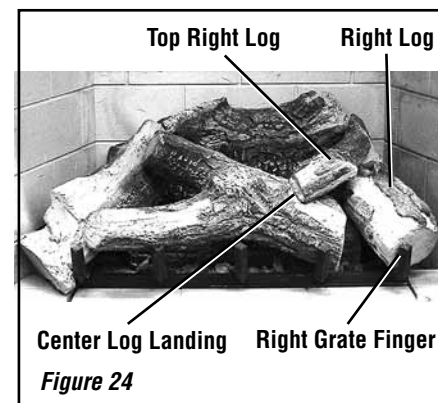

Figure 24
Step 5. Place the right log as shown in **Figure 24**, with the upper end sitting on the landing provided on the rear log. Another end of the right log should rest on the first right finger of the grate (see **Figure 24**). Position the top right log as shown, locating it on the landing of the center log.